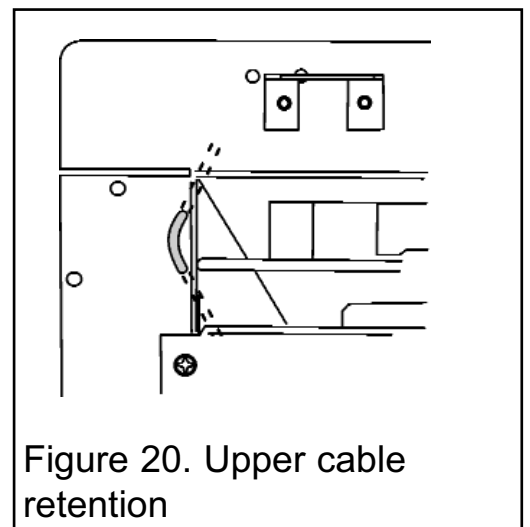

Figure 20. Upper cable retention
5. The convection box has two holes at each side of the convected air opening. Insert one end of each cable (one cable each side) from the back through the lower of the two holes and return the end through the upper of the holes (See figure 20). Give the cables a pull so that they grip against the convection box flanges.